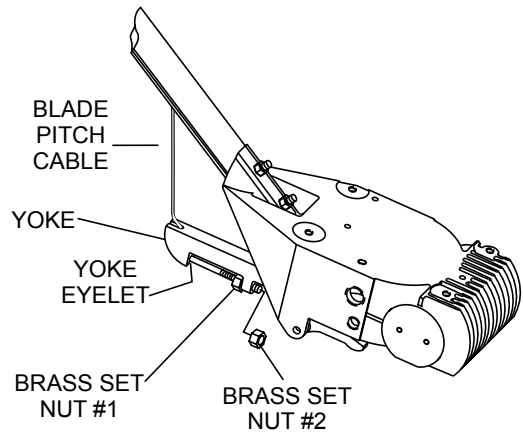

Figure 7. Cable Yoke Attachment
4. Insert the cable end through the yoke eyelet (Figure 7). Tighten brass set nut #1 by hand to remove all the slack from the cable.